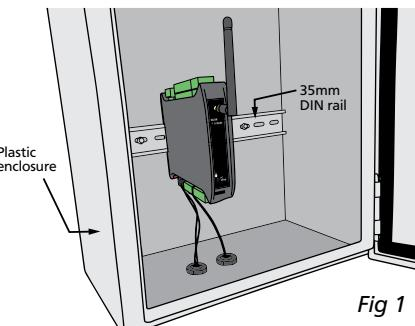

Fig 1
**A - Plastic Enclosure (Fig 1)**
**IMPORTANT!** The device should be mounted in the vertical orientation as shown in Fig 1.